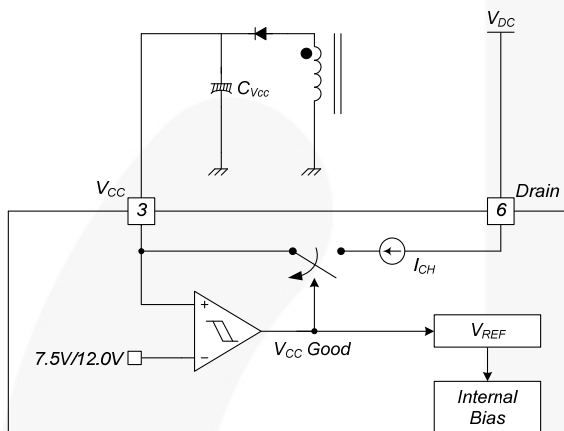

Figure 17. Startup Block
1. Startup: At startup, an internal high-voltage current source supplies the internal bias and charges the external capacitor (C_{VCC}) connected to the V_{CC} pin, as illustrated in Figure 17. When V_{CC} reaches 12V, the FSL136MRT begins switching and the internal high-voltage current source is disabled. Normal switching operation continues and the power is supplied from the auxiliary transformer winding unless V_{CC} goes below the stop voltage of 7.5V.